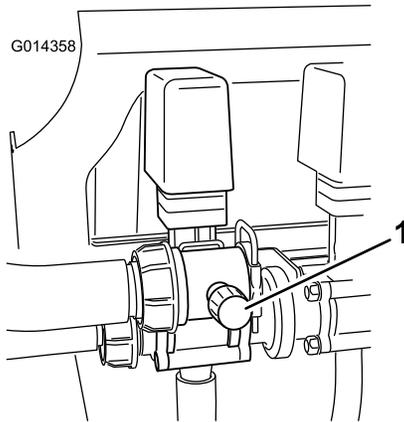

Figure 18
9. Adjust the agitation bypass valve (Figure 18) on the backside of the agitation valve until the pressure reading on the gauge is 100 psi.